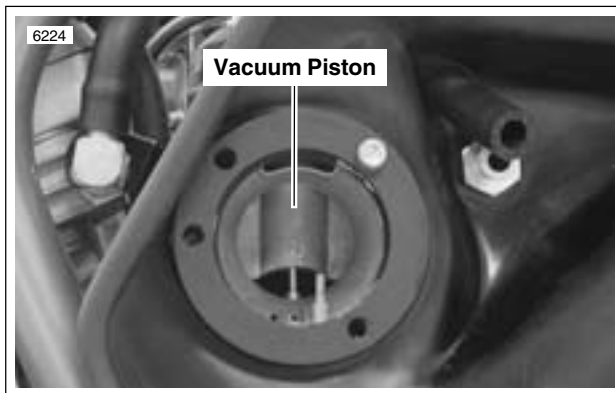

Figure 4-10. Vacuum Piston
1. See Figure 4-10. Test vacuum piston as follows.
1. See Figure 4-10. With engine not running, lift vacuum piston to full open position, then release. Observe whether piston slides downward smoothly and fully to stop.